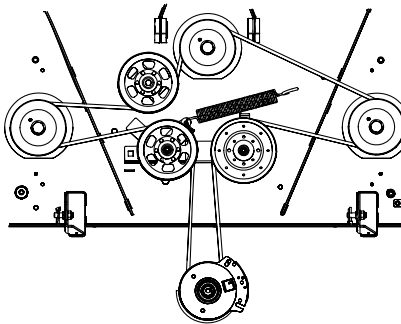

Figure 4-22
5. Install the new belt around the spindle pulleys as shown and reinstall the belt covers. See Figure 4-22.